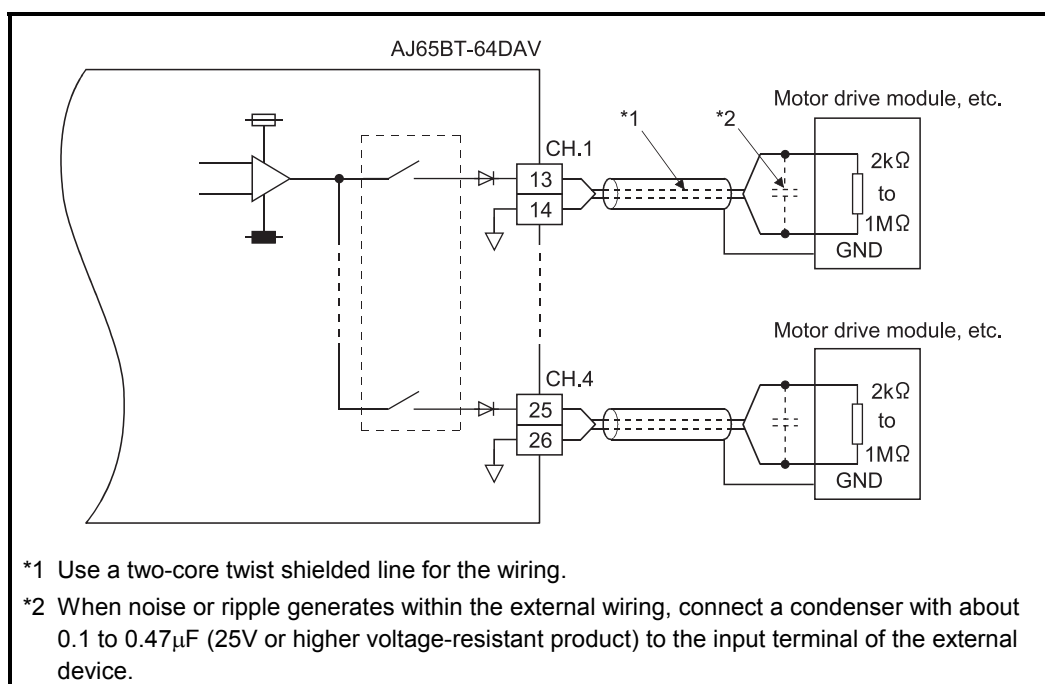

Figure 4.1 Wiring example of the AJ65BT-64DAV and external devices
- (1) Wiring example of the AJ65BT-64DAV and external devices is shown in Figure 4.1.